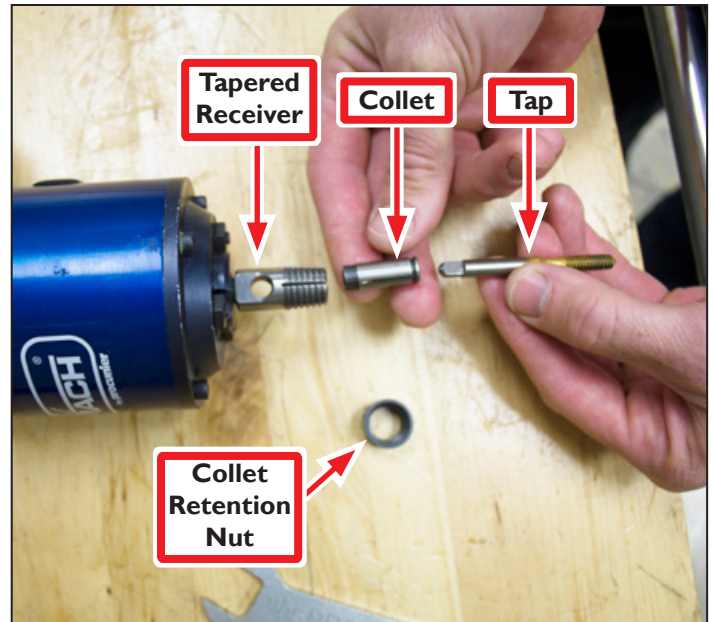

Figure 11
7. Using wrenches (included), remove Collet Retention Nut from Tapping Head as shown in **Figure 11**; set aside.
9. Loosely insert Tap into Collet; place into Tapered Receiver on the bottom of Tapping Head (see **Figure 11**).